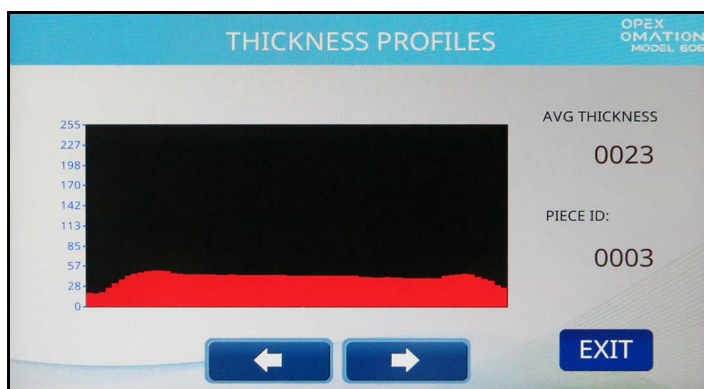

Figure 6-17: Thickness Profiles screen
- **PROFILES** - View a graph of the thickness along the length of each piece run, as seen in Figure 6-17. The arrow buttons allow you to toggle between the previous and next pieces in sample.